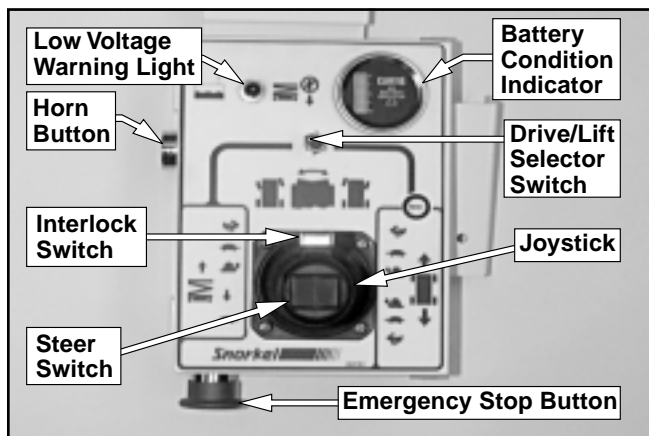

Figure 9.2—Upper Controls
The upper controls (refer to Figure 9.2) are located on the right side of the platform. The following are located at the upper control station.
1. Place the drive/lift selector switch (refer to Figure 9.2) in the drive position.
The steer control switch is located on the joystick (refer to Figure 9.2). Use the following procedure to steer the aerial platform using the upper controls.
1. Place the drive/lift selector switch (refer to Figure 9.2) in the lift position.